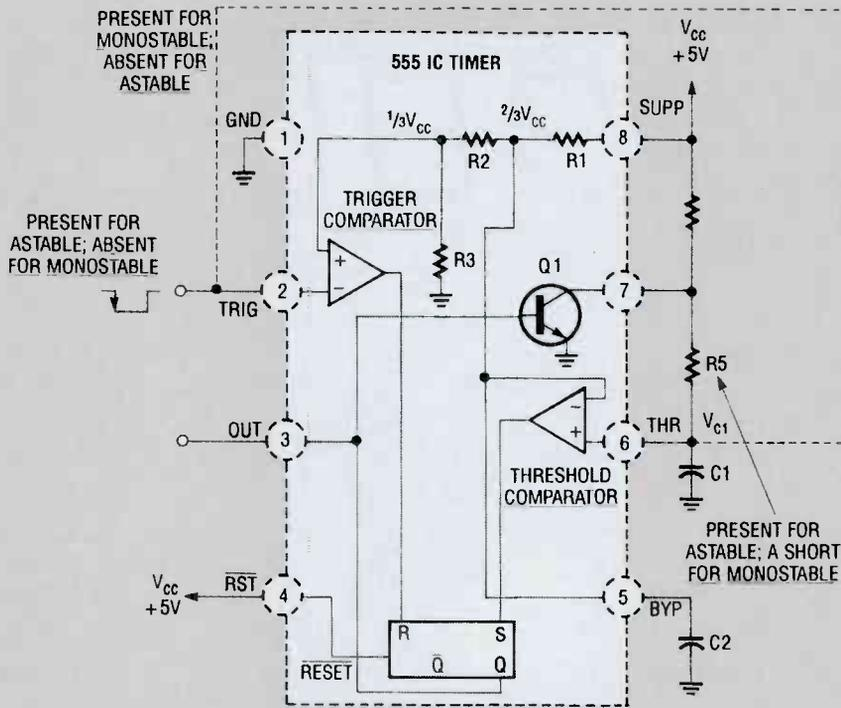

FIG. 1—THE BLOCK DIAGRAM of the 555 timer.
The 555 is the most versatile IC timer ever developed for astable/monostable operating modes, and it needs very few external components to use it. Figure 1 shows the 555's block diagram, with its threshold and trigger comparators, set-reset (S-R) flip-flop, NPN discharging transistor (Q), a noninverting buffer, and an internal voltage divider R1/R2/R3 for comparator reference levels. The flip-flop is "set" if high, and "reset" if low. The comparators sense the variation in C1's voltage in either mode, and charges and discharges C1 between  $\frac{1}{3}$  and  $\frac{2}{3}$  of  $V_{CC}$ , or about 5 volts. C1's voltage is not the output, but it does govern the 555's operation.